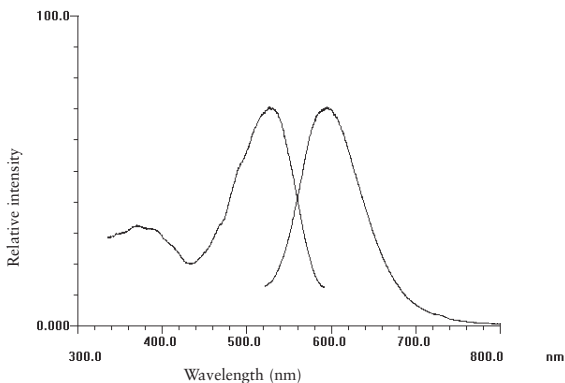

Figure 1. Fluorescence excitation and emission spectra of Deep Purple stained proteins in gel plugs taken from a 2D gel.
Deep Purple™ total protein stain is a naturally occurring fluorescent compound extracted from a fungal species (1) and it has been developed as an ultra-sensitive fluorescent stain for the detection of proteins in-gel following electrophoretic separation (2). It is believed that this stain interacts with SDS micelles surrounding proteins within gels although a detailed mode of action is not yet fully established. Deep Purple has been shown to be up to 8 times more sensitive than similar products although, as with all protein staining methods certain individual proteins can exhibit different staining characteristics. Deep Purple is an environmentally friendly stain which is diluted in water for use and therefore allows for easy and convenient disposal. The stain may be used in conjunction with a range of excitation sources including UV light boxes, broad range visible light sources and lasers (see figure 1).